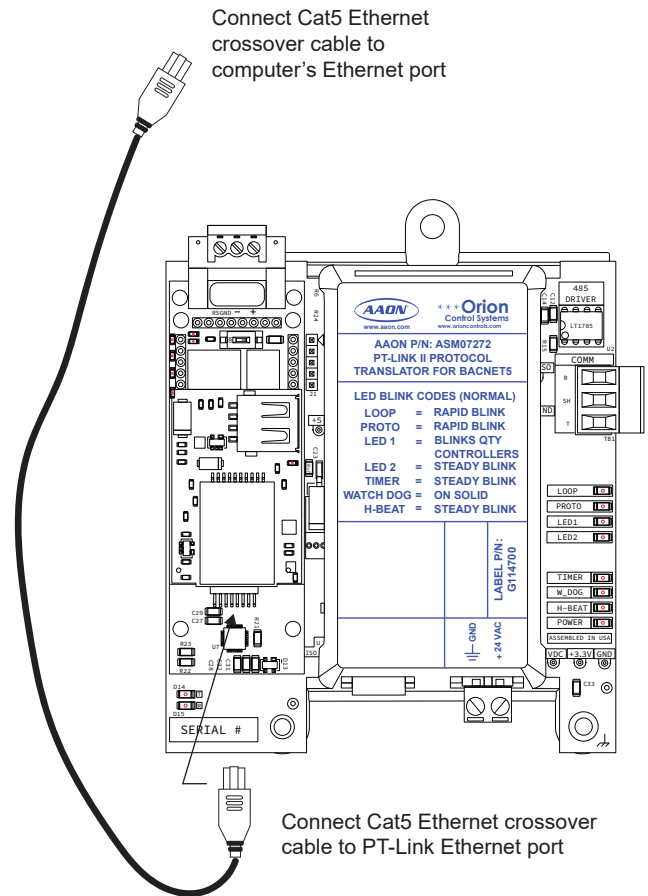

Figure 3: Connecting with Crossover Cable
1. Connect the PT-Link directly to the computer by using a standard Cat5 Ethernet crossover cable (by others) as shown. See **Figure 3, this page**, for details.